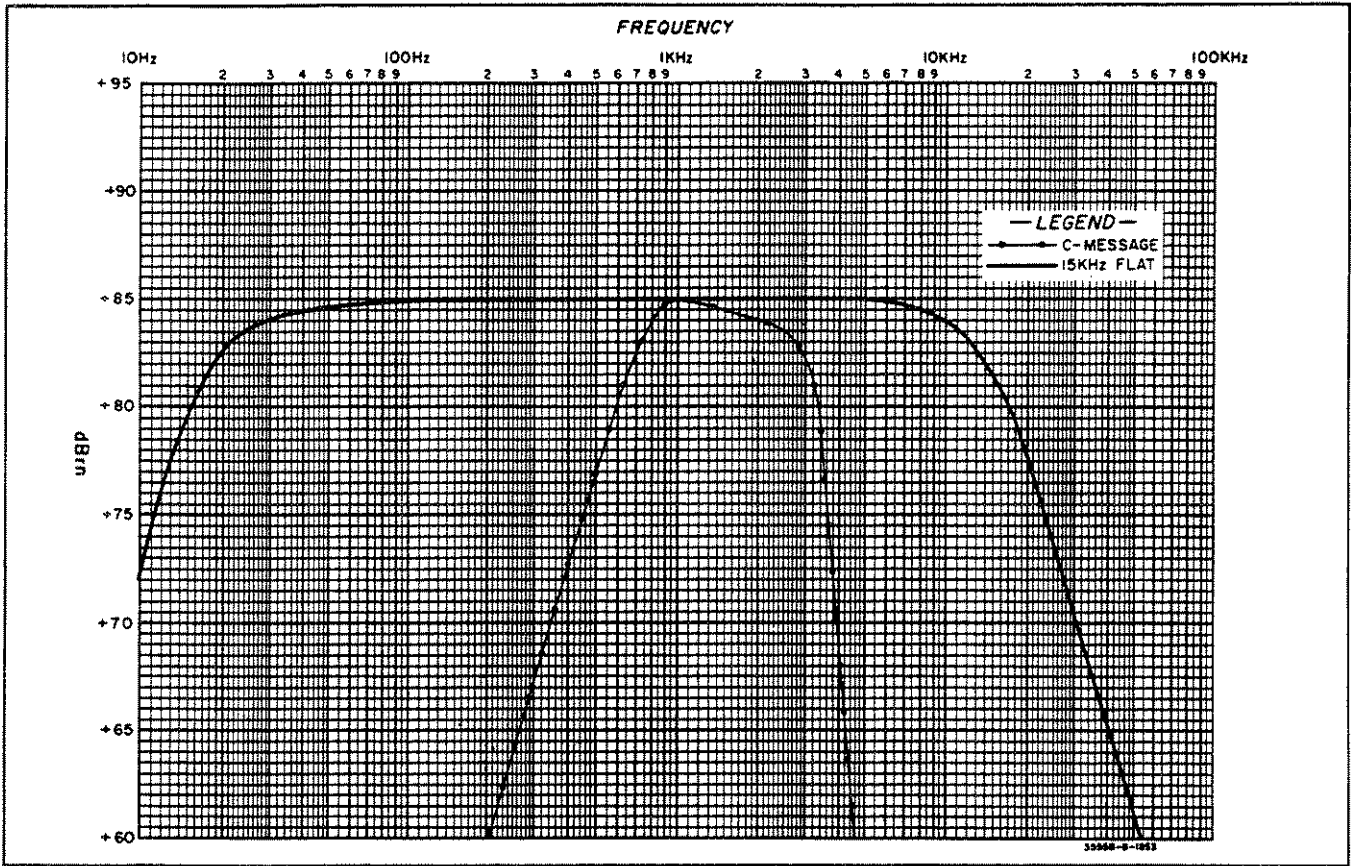

Figure 3-1. C-MSG and 15 kHz FLAT Weighting Curves.
**3-30. C Message.** The C message filter has a frequency response which simulates the effects of noise on the human ear. This weighting is also used to evaluate the effects of noise on voice-grade data circuits. The frequency response of this filter is shown in Figure 3-1.
**3-32. 15 kHz Flat.** The 15 kHz Flat filter is used for unweighted measurements of noise on radio and television studio-transmitter and studio-remote audio links. The frequency response of this filter is shown in Figure 3-1.